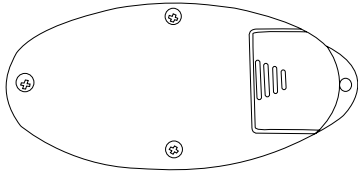

Fig. 1
2. Remove the battery compartment cover. (Fig.1) Install the included 23A battery. Ensure the battery is installed correctly with regard to polarity (+ and -).